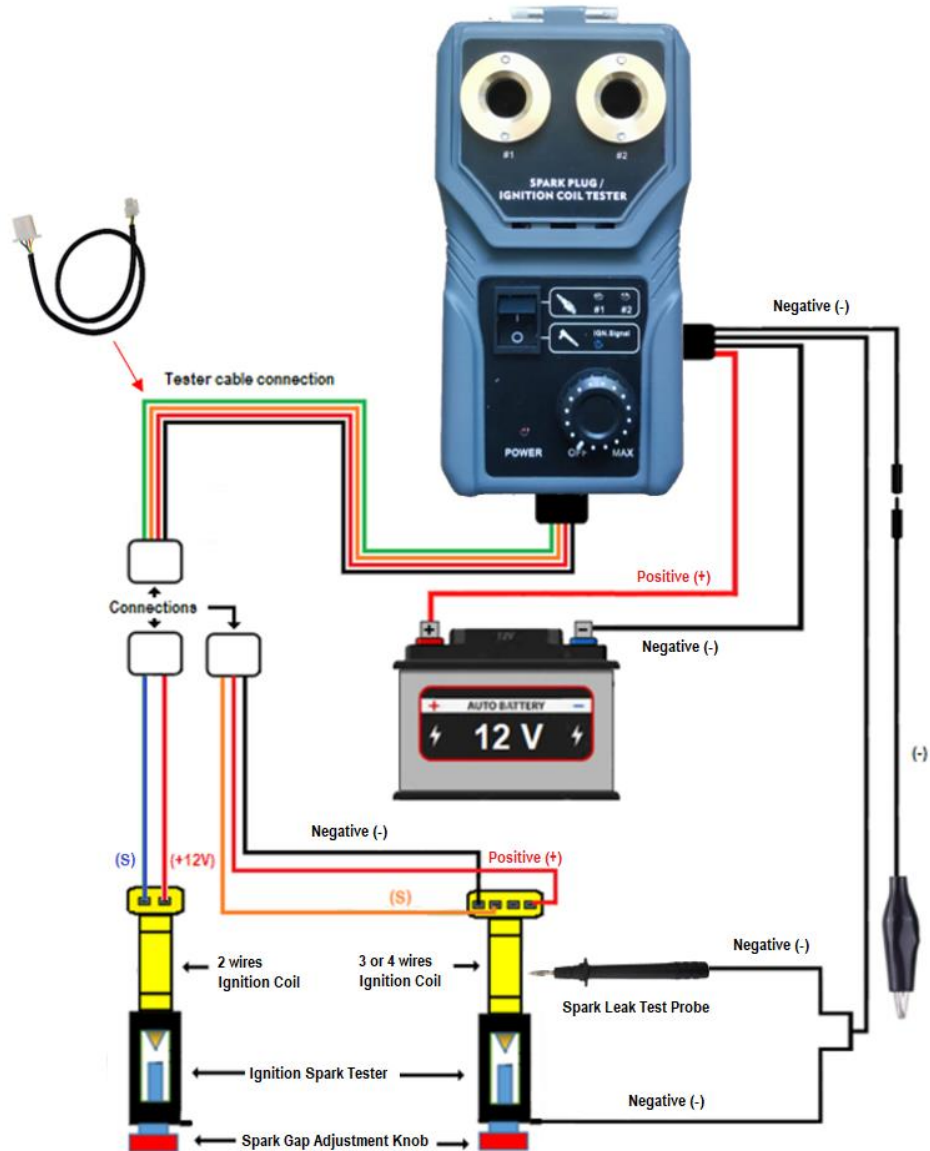

Fig.4
4. Connect power to the Tester by clamping it on to a 12-volt car battery. **Red** clamp to battery positive (+) terminal and **Black** clamp to negative (-) terminal. See connection diagram Fig 4. Below:
To test for coil leaks, connect the Spark Leak test probe (as Fig.9 shown below) to the axillary ground connection (see Fig.4 above). Place the probe near the coil and move around the outer casing to observe for any leaking sparks (see Fig.10 & 11 below). If there is then the coil is bad.